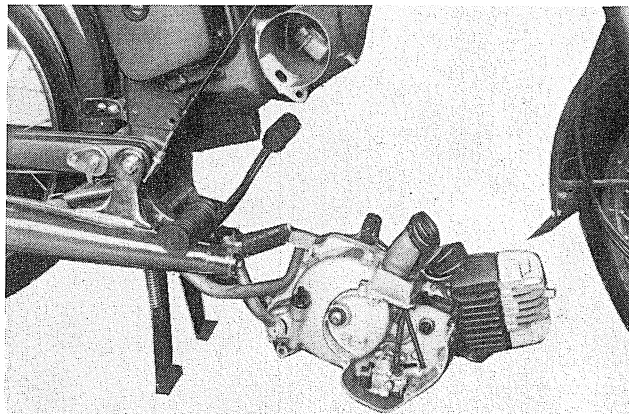

Fig. 3-1-21
17. Pull out the foot rest mounting bolt, and remove the engine from the chassis. (Fig. 3-1-21)